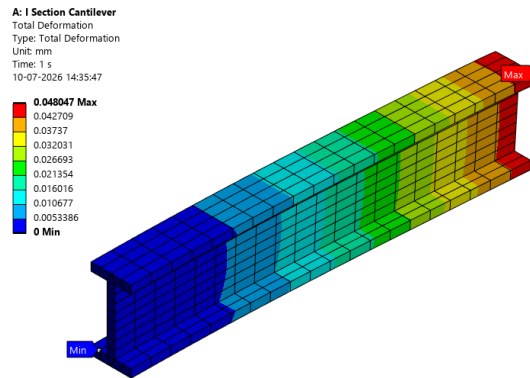

Figure 2-56 Total deformation contour in the model
- Select **Total Deformation** in the **Outline** pane; the corresponding contours are displayed in the Graphics screen, as shown in Figure 2-56.